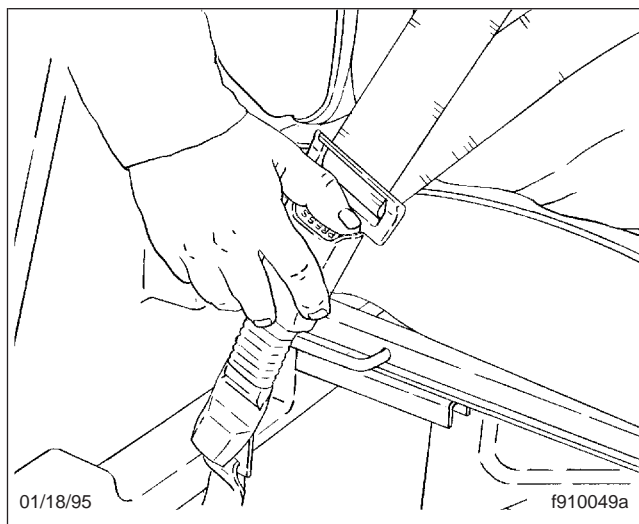

Fig. 5.20, Releasing the Three-Point Seat Belt
4. To unbuckle the three-point seat belt, push the button on the buckle as shown in Fig. 5.20. If the Komfort Latch was used, release it by giving the shoulder belt a quick tug. If you lean forward against the shoulder belt, the Komfort Latch will automatically release, and will need to be reset.